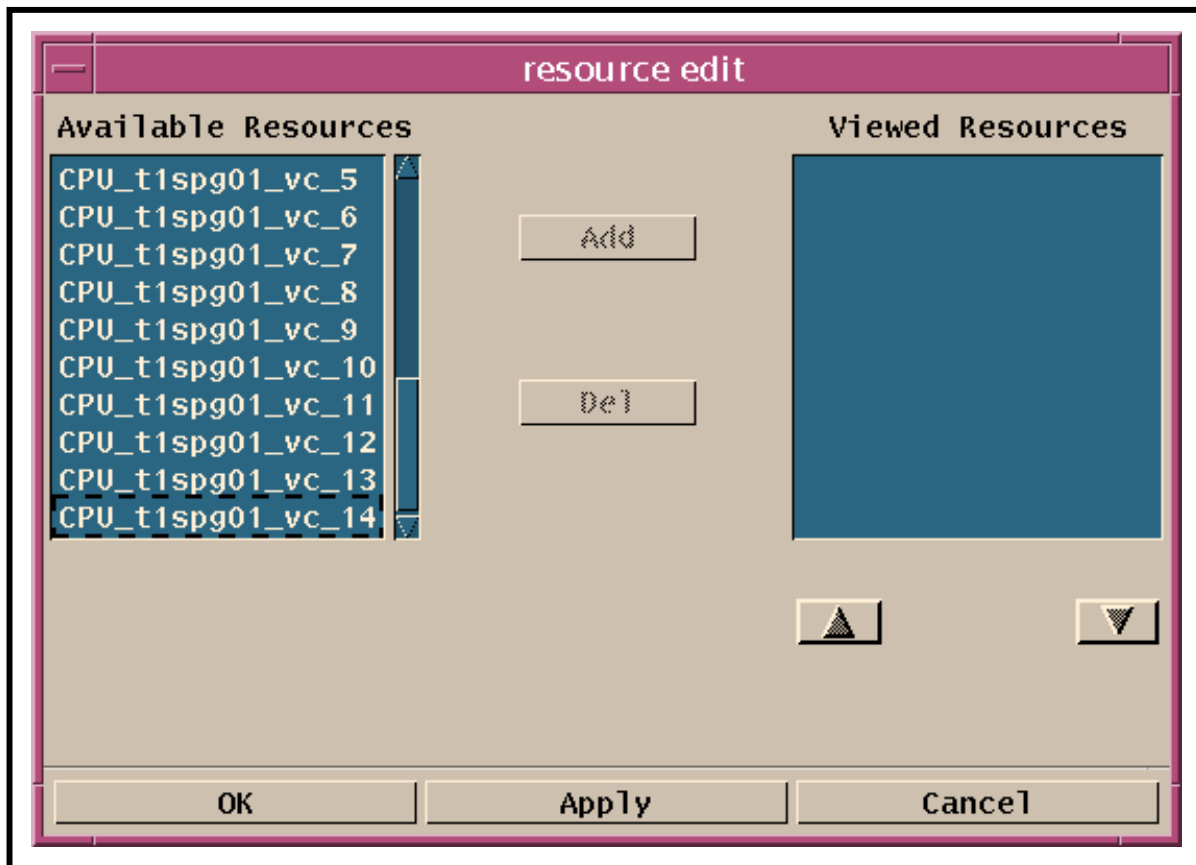

Figure 51. Resource Edit Window
- The **Resource edit** window (Figure 51) is displayed.